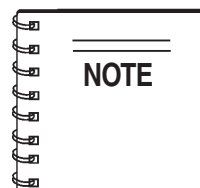

Figure 74. Off/Manual Auto Switch (AUTO)
4. Place the Auto-Off/Reset-Manual switch (Figure 74) to the **OFF/Reset** position.